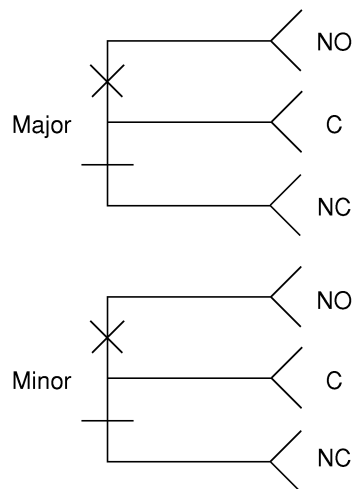

Figure 2-3 Major and Minor Alarm Contacts
- 2.11 Individual major and minor alarm connections for each module are provided at the connectors labeled EC01 through EC16. As shown in Figure 2-3, each connector provides a normally open (NO), normally closed (NC), and common (C) relay contact for both the major and minor alarms.